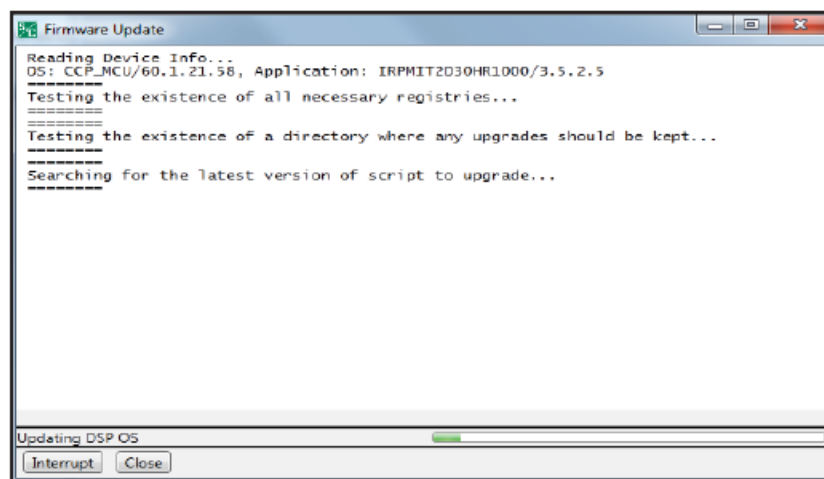

Figure 22. The Firmware Update dialog box.
- **STEP 3.** The Firmware Update dialog box opens. See Figure 22.